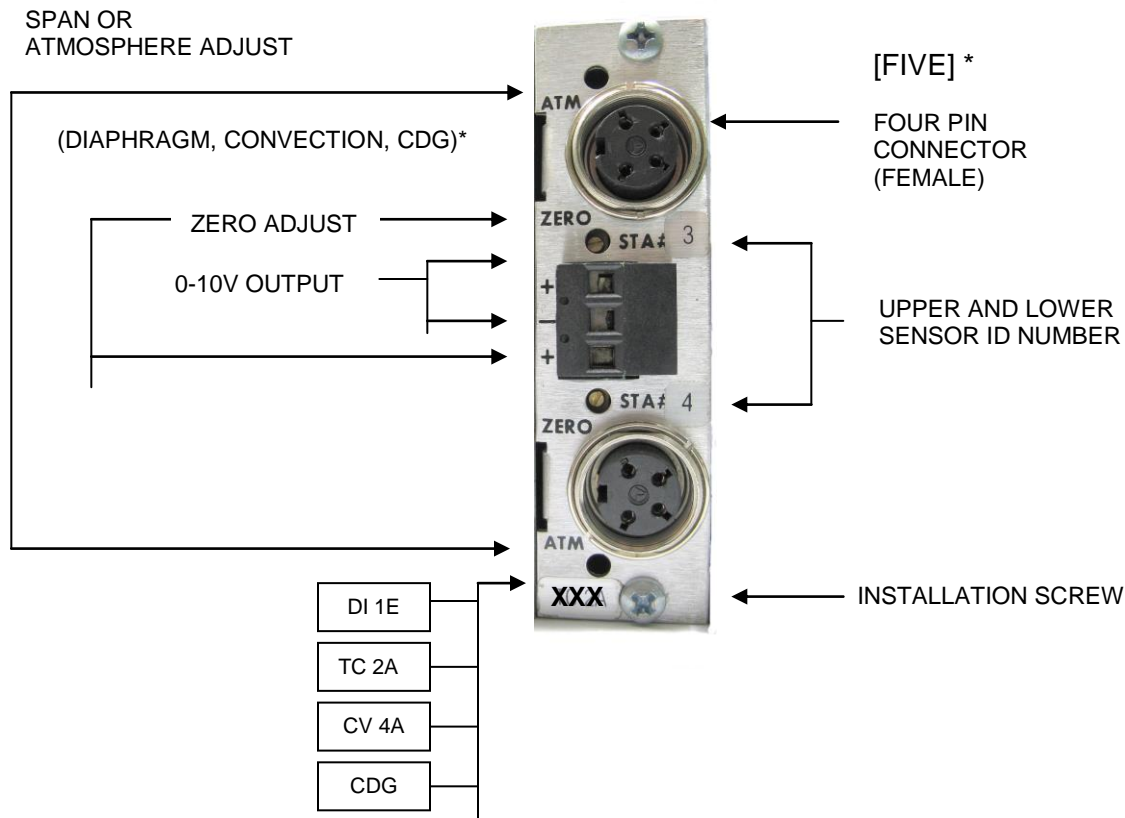

Fig. 3.7 - Rear Panel of the Thermocouple, Convection and Diaphragm Modules
**THERMOCOUPLE MODULE** - The rear panel of the thermocouple module is shown in Fig. 3.7. The gauge tube cables can be connected by inserting the cable connector into the socket and turning the shell clockwise to engage the screw threads for retention of the connector.
**CONVECTION MODULE** - The rear panel of the convection module is also shown in Fig. 3.7. The only difference that can be seen from the rear panel is the use of the letters CV instead of TC. The gauge tube cables can be connected by inserting the cable connector into the socket and turning the shell clockwise to engage the screw threads for retention of the connector. Note that the convection cable has different wiring and markings from the thermocouple cable.
**DIAPHRAGM MODULES** - The rear panel of the diaphragm modules are also shown in Fig. 3.7. The only difference that can be seen from the rear panel of a thermocouple module is the use of the letters DI instead of TC and the presence of a SPAN potentiometer. The gauge tube cables can be connected by inserting the cable connector into the socket and turning the shell clockwise to engage the screw threads for retention of the connector. Note that the diaphragm cables have different wiring and markings from the thermocouple cable.
**CAPACITANCE DIAPHRAGM MODULES** - The rear panel of the capacitance diaphragm modules are also shown in Fig. 3.7. The only difference that can be seen from the rear panel of a thermocouple module is the use of the letters CDG instead of TC and the presence of a SPAN potentiometer. The gauge tube cables can be connected by inserting the 5-pin cable connector into the socket and turning the shell clockwise to engage the screw threads for retention of the connector. Note that the capacitance diaphragm cables have different wiring and markings from the thermocouple cable.